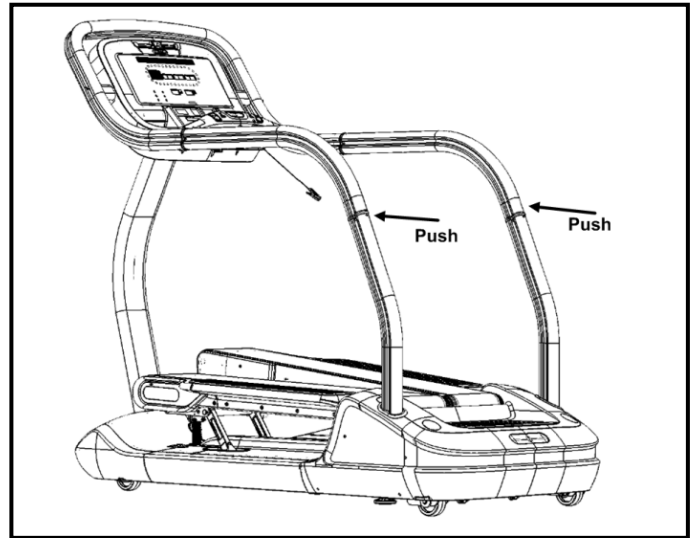

Fig. 30
28. Transport/push (Fig. 30) the TreadClimber to its final location by rolling it into position.